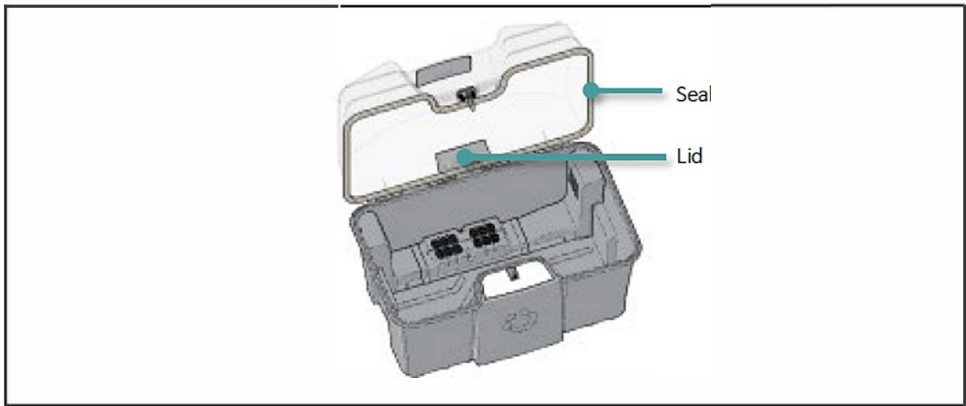

Figure 13 Location of seal and lid to be inspected before each use.
- a. **INSPECT THE LID SEAL. A TIGHT SEAL BETWEEN THE LID AND THE BASE IS REQUIRED TO ENSURE PROPER AND SAFE OPERATION. IF THERE IS DAMAGE TO SEAL DO NOT OPERATE THE NUTROZ DEVICE.** Refer to Figure 13 below for the location of the seal. Damage could include but is not limited to tears, rips, or missing sections. If damage to the seal is identified, unplug the NUTROZ device and ensure it is not used until a replacement seal is installed.